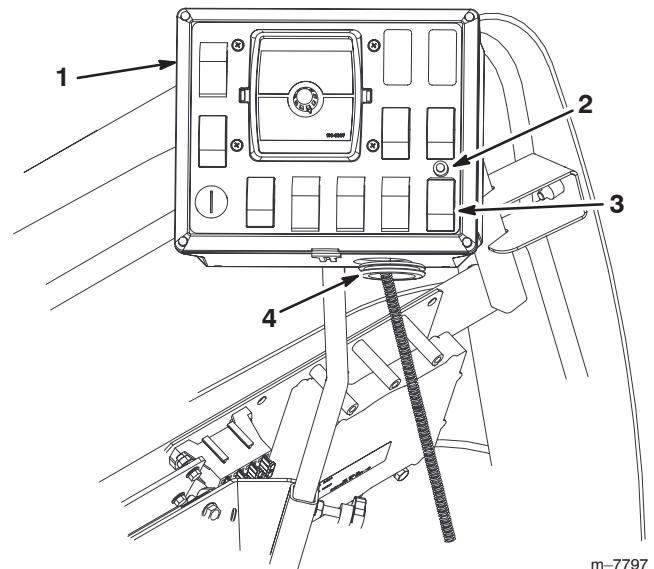

Figure 16
3. Install the indicator light through the back of the hole. Secure it to the front panel with the fasteners included (Fig. 16).
2. Split the new grommet included in the kit and wrap the around the wiring harness at the base of the control panel. Instal the grommets to the base of control panel in place of the grommet removed previously (Fig. 16).
8. Install the front control panel cover to the control box using the fasteners removed previously (Fig. 16).